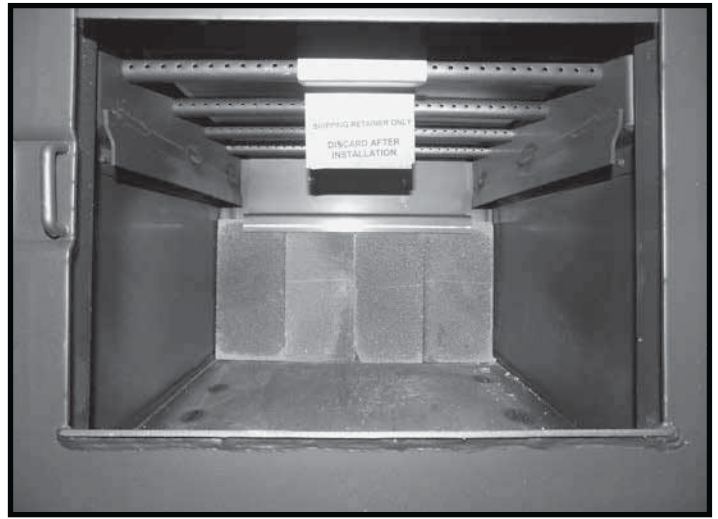

Figure 13: Bricks against rear wall.jpg
2. Place 3 more bricks up under the rear brick rail to complete the rear brick placement (Figure 13).